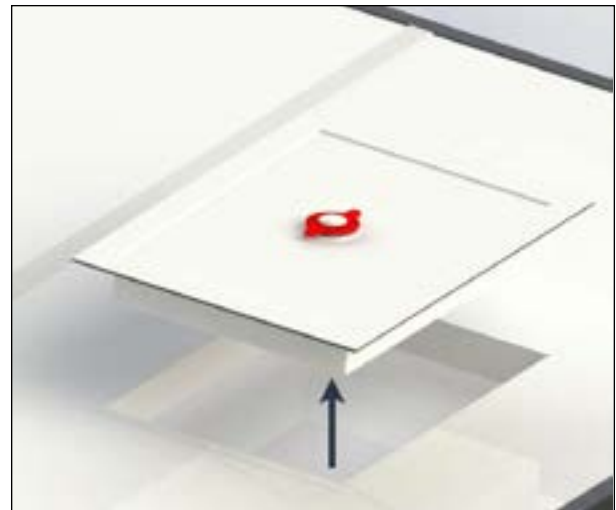

FIGURE 86: REMOVE HATCH
2. Push straight up on the escape hatch and move it to the side, see Figure 86.